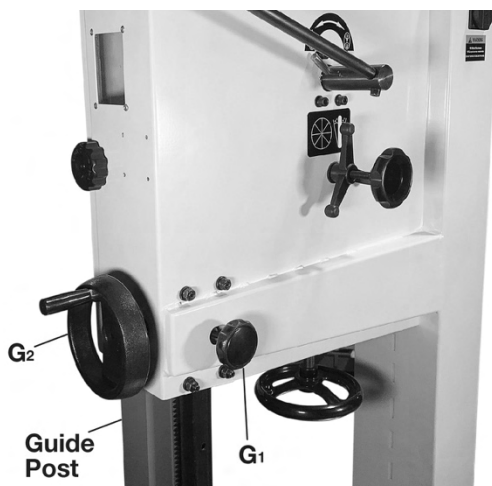

Figure 7-4
Refer to Figures 7-4 and 7-5.
1. Loosen lock knob (see G₁, Figure 7-4) and raise or lower guide post using handwheel (G₂, Figure 7-4).
3. Tighten lock knob (G₁, Figure 7-4).